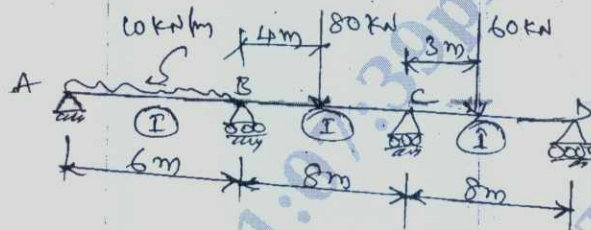

Fig. Q7
- 7 Analyse the continuous beam shown in Fig. Q7 by flexibility method and draw bending moment diagram. Take EI constant. (20 Marks)